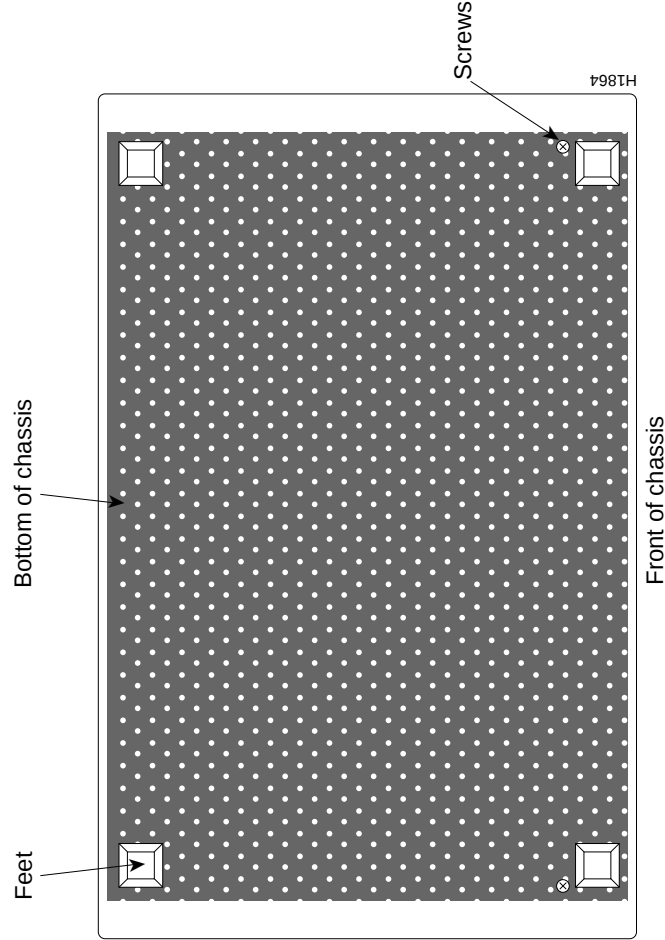

Figure 4-2 STS-10x Cover Fasteners
Step 2: Locate and remove the chassis cover screw on the back of the STS-10x, shown in Figure 4-2.